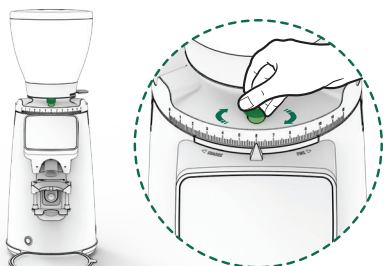

Fig. 11
**12.3.7.** To avoid losing the position of the regulator scale with respect to the current grinding point, it is essential to tighten the setting of the grinding regulator using the adjusting brake by turning it clockwise (**Fig. 11**).